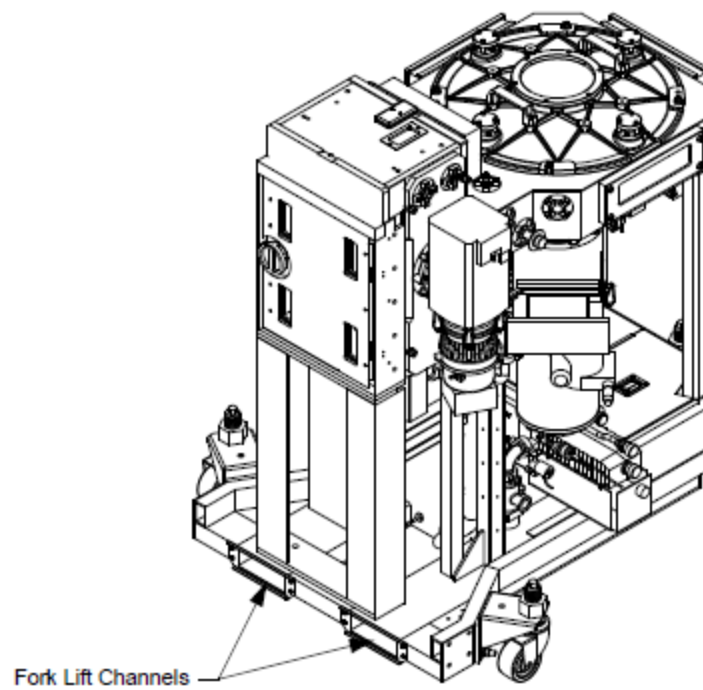

Figure 11-1: Fork Lift Channel Locations
20.	Using the fork lift, pick the Transport Chamber up only enough to clear the shipping skid. Refer to Figure 11-1 for the location of the fork lift channels. NOTE: If the original crates have become lost or damaged, contact Brooks Automation for replacements.